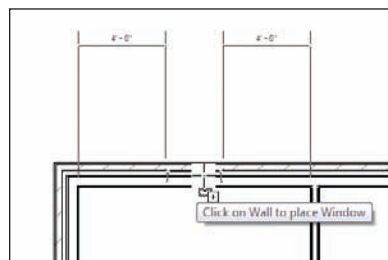

FIGURE 2.78 Depending on the side of the wall your cursor is on, you can add a window to the correct orientation.
3. Add the window to the corner of the building, as shown in Figure 2.78. Be careful with the placement. If your cursor is toward the exterior of the wall, the window will be orientated correctly.